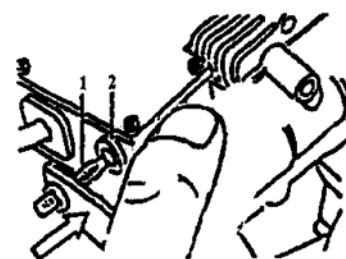

Fig. 9
- Insert adjusting screw (Fig. 9) in the opening of the micro switch (Total Stop).